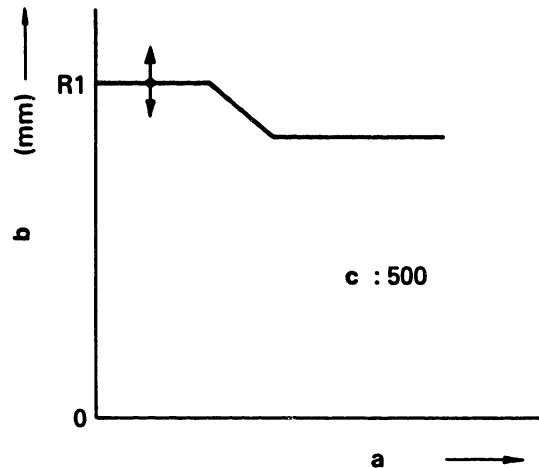

Fig. 60
2. Adjust the smoke setscrew so that the control rack can be positioned at R1, and then fix it using the nut. (Figs. 60 and 61)